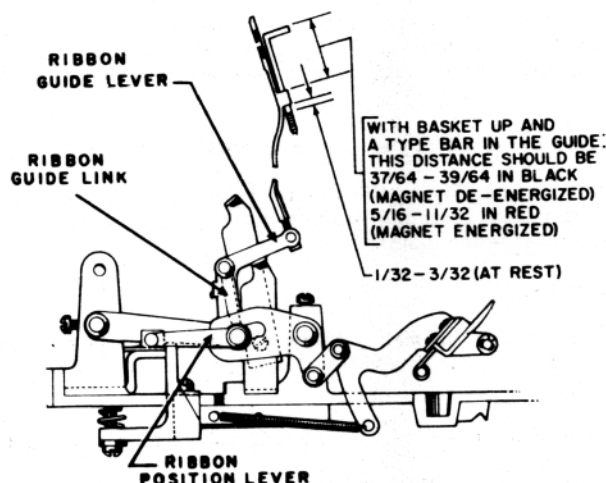

Figure 2.
4. When the segment support assembly is in its lower case position (up) and a typebar is manually lifted fully to the platen, a distance of 37/64" to 39/64" is required from the tops of the bent tabs on the cloth ribbon guide to the top edge of the typebar guide (Figure 2).